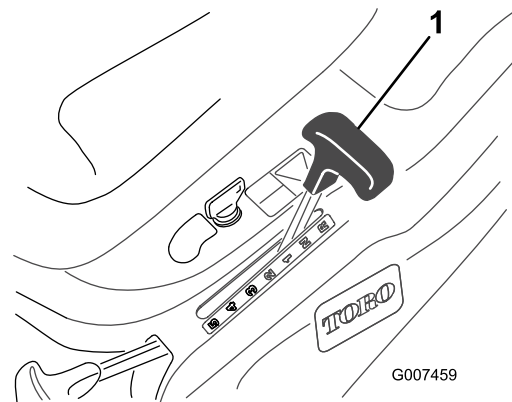

Figure 8
3. Shift the ground speed lever into Neutral (N) (Figure 8).